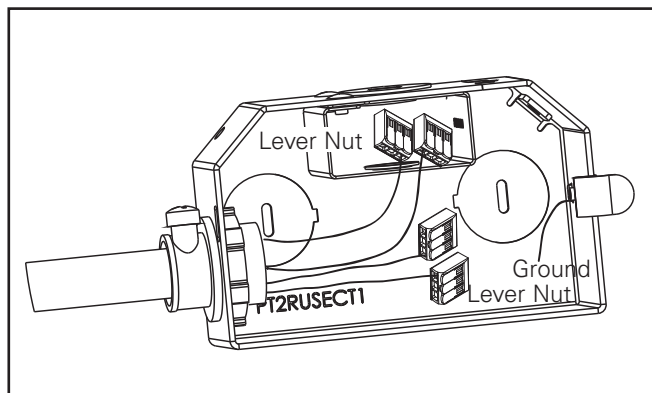

Figure 8
2. Remove junction box cover (Figure 8).